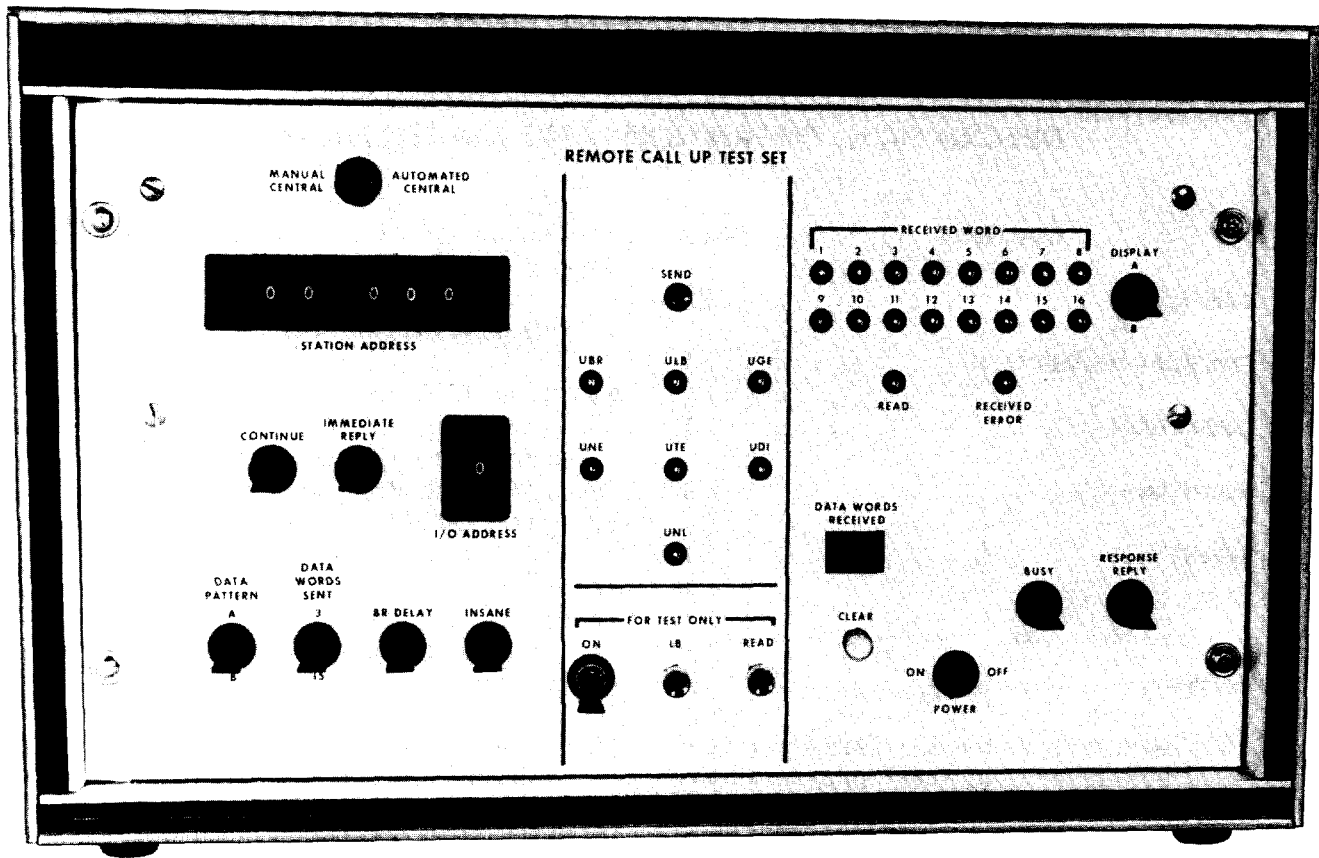

Fig. 1—RCU Test Set
1.01 This section covers the description, operation, and maintenance of the Remote Call-Up (RCU) test set model RCU-100. The test set (Fig. 1) is used for acceptance and maintenance of the RCU circuit module in E2 remotes. Tests using the RCU test set are covered in the appropriate equipment maintenance sections.
2.01 The RCU test set (Fig. 1) is housed in a 15-inch by 17-inch by 11-inch portable cabinet. All controls for operating the test set and indicator lamps for monitoring the results are contained on the front panel of the test set. The visual indicators consist of 23 single light-emitting diodes (LED) and one numeric LED readout. The logic for the test set is contained on two printed circuit boards. The set is designed for operation from 120 Vac, 60 Hz.